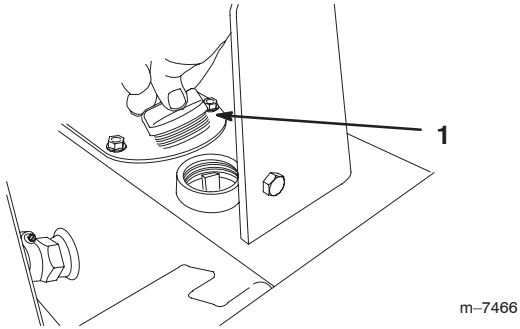

Figure 64
5. Remove the hydraulic tank cap and dipstick (Fig. 64 and 65).